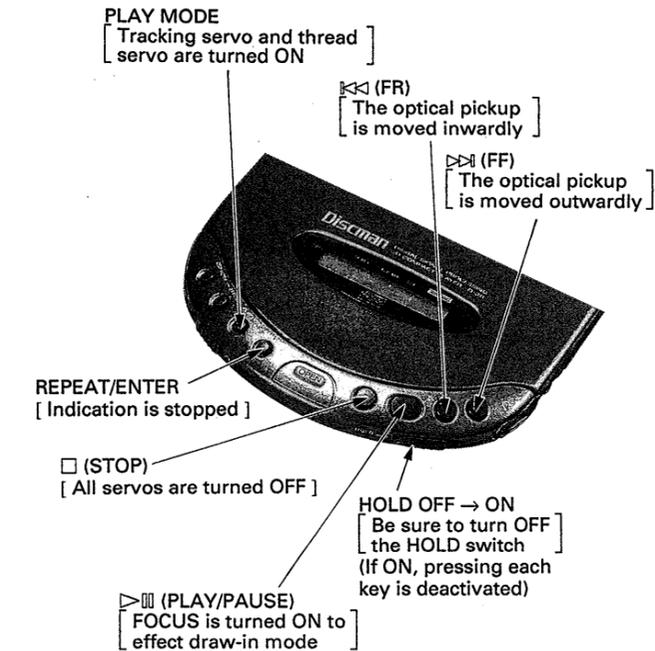

**Fig. 2 VOM connecting location**
3. Connect a VOM as shown in Fig. 2 (terminate it with R510, 10Ω at both ends).